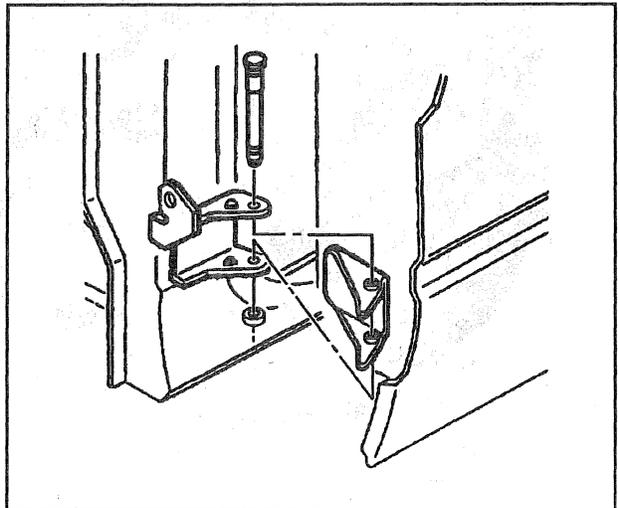

Figure 14—Lower Hinge Pin
5. Lower hinge pin with the pointed edge down (figure 14).
6. New hinge pin retainer (figure 14).